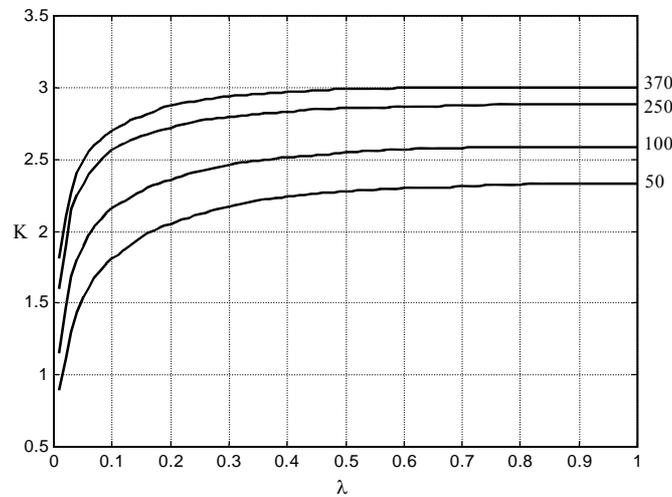

Figure 7 – Nomogram of K vs. λ
- Find optimal parameter K for setting control limits in the EWMA chart which satisfies the in-control $ARL(0)$ set in the step 1. Use for it the next Crowder's nomogram (Fig. 7).
4. For optimal $\lambda = 0,17$ through the curve for $ARL(0) = 370$ in nomogram on the Fig. 7 we have read that the optimal parameter K is approximately 2,83.